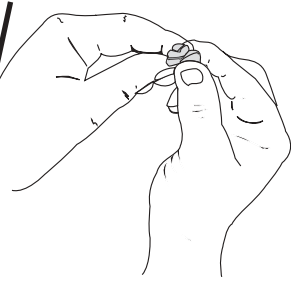

Fig. 11
6. Squeeze the filter to spread and remove excess oil (Fig. 11).